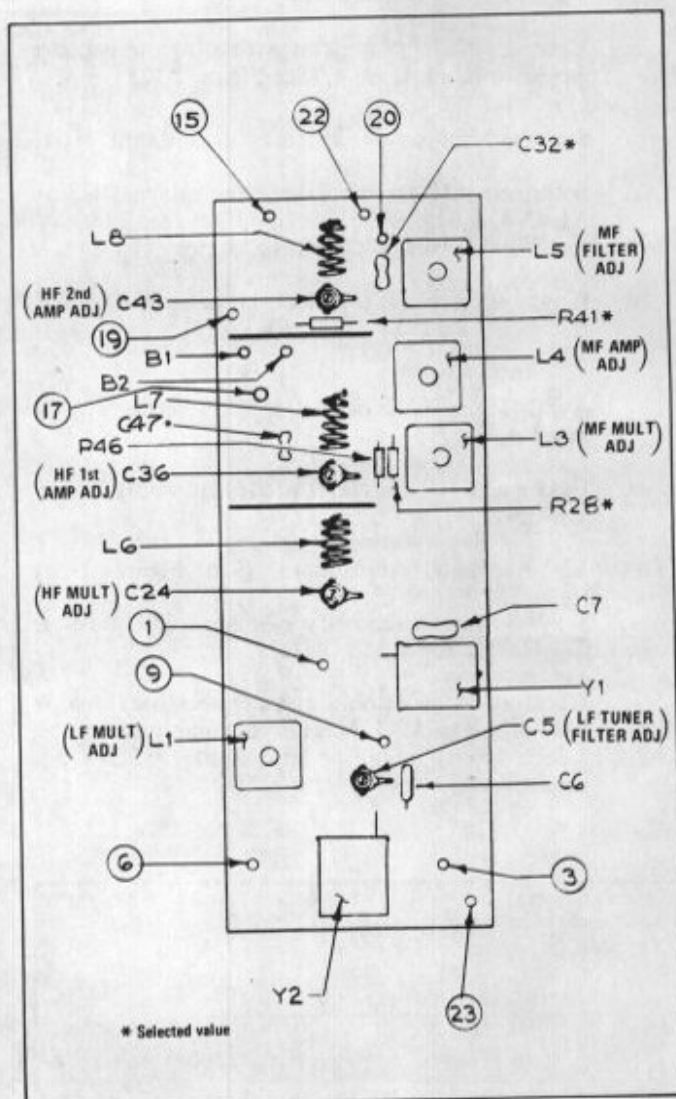

Figure 2-11. Trimmer Locations, Frequency Generator Assemblies, A12 thru A15
2.5.9 A15 Assembly Adjustment, 4.2 MHz and 42 MHz (See Figure 2-11)